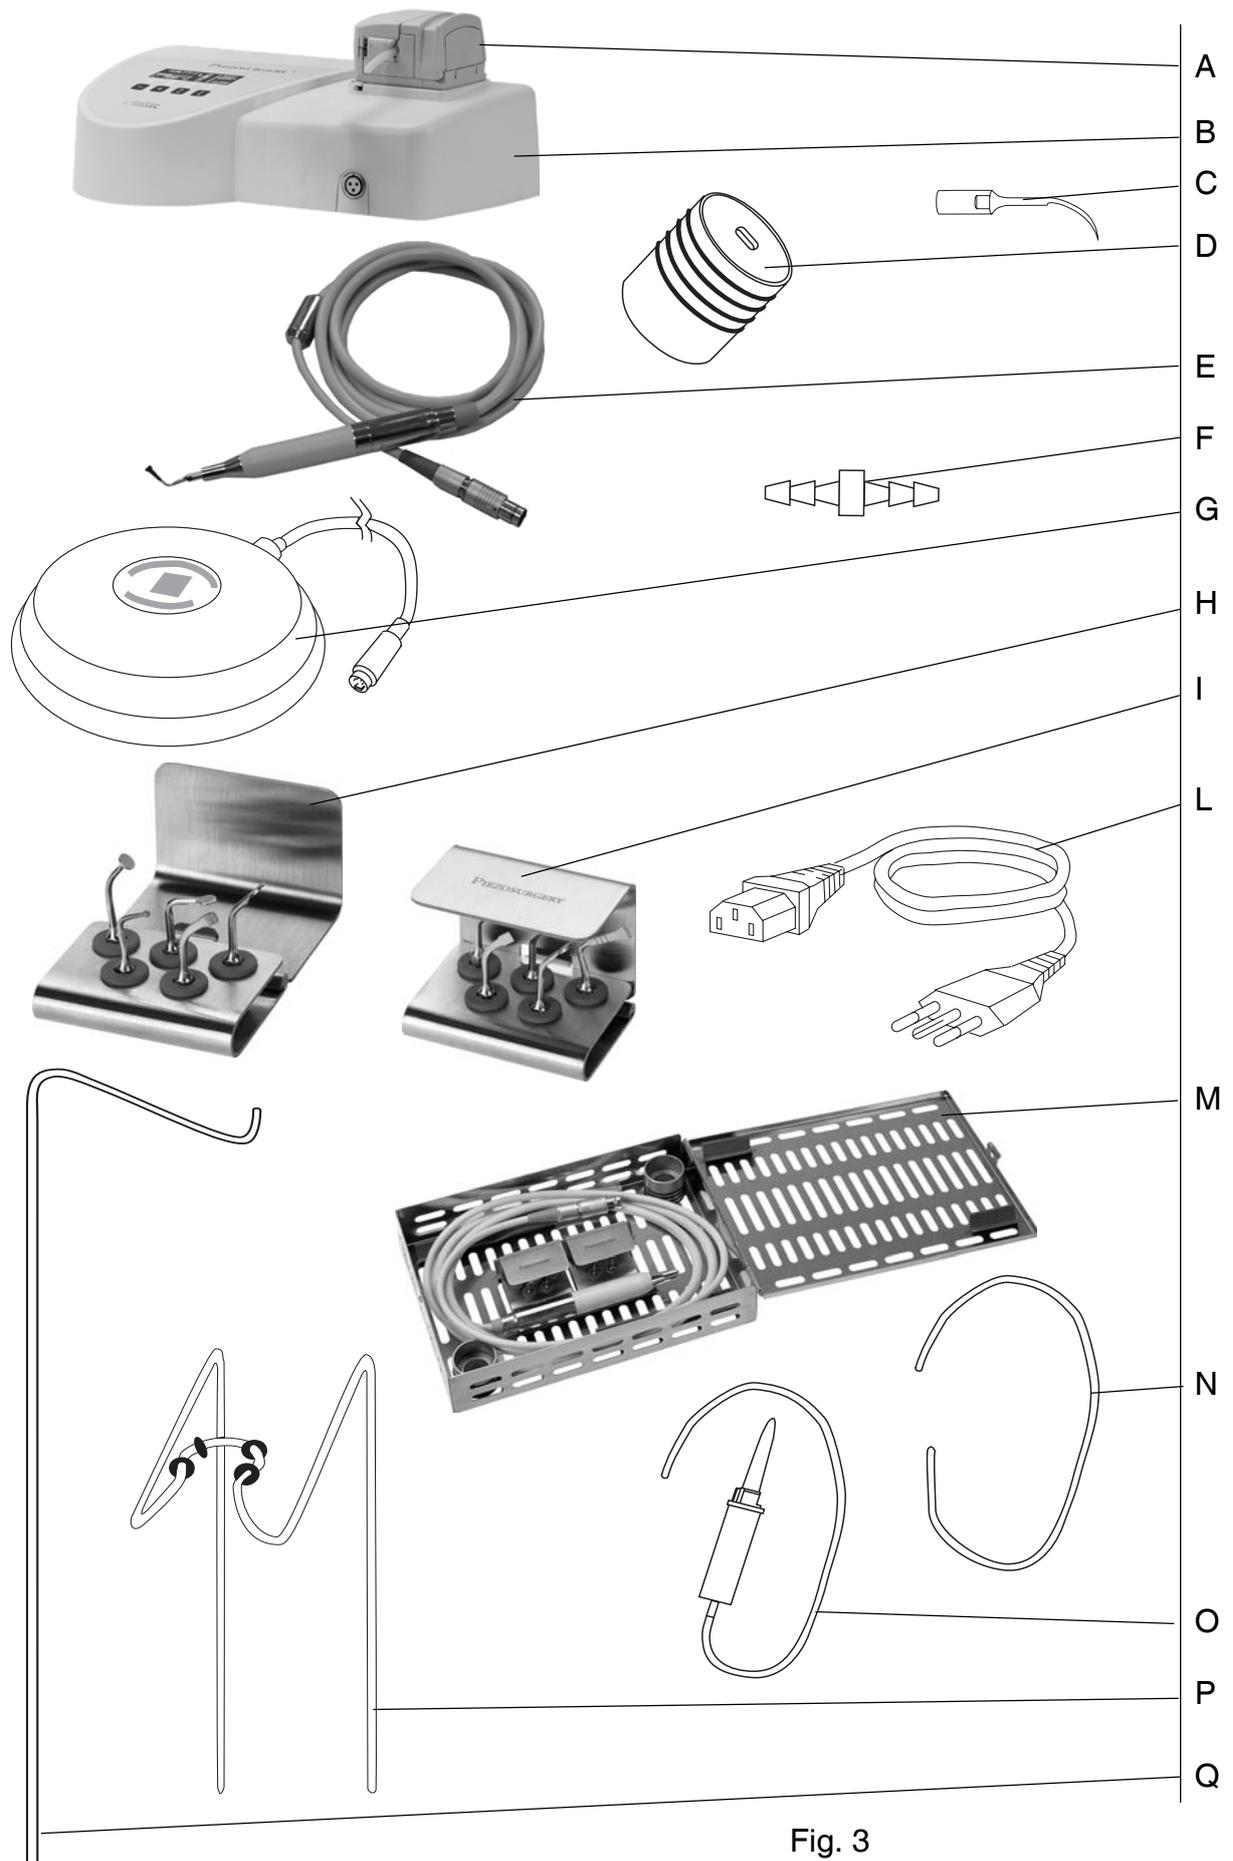

Fig. 3
- 1 Casing of the device (Fig.3 - Ref.B).
- 2 Piezosurgery handpieces complete with cords (Fig.3 - Ref.E).
- 2 K4 torque wrenches K4 (Fig.3 - Ref.D).
- 1 Footswitch with cable and plug (Fig.3 - Ref.G).
- 2 Connections for the cord and tube of the peristaltic pump (Fig.3 - Ref.F).
- 2 Drip system (Fig.3 - Ref.O).
- 1 Power-supply cable (Fig.3 - Ref.L).
- 8 Tube for the Piezosurgery peristaltic pump (Fig.3 - Ref.N).
- 1 Rod for supporting the bag (Fig.3 - Ref.Q).
- 1 Support for the Piezosurgery handpiece (Fig.3 - Ref.P).
- 1 Basic Insert Kit (Fig.3 - Ref.H) consisting of 5 inserts (Fig.3 - Ref.C).
- 1 Sinus Lift Insert Kit (Fig.3 - Ref.I) consisting of 5 inserts (Fig.3 - Ref.C).
- 1 Surgical Tray - Container for accessories to be sterilised (Fig.3 - Ref.M).
Ref. G (Fig.3)	- The enabling footswitch.